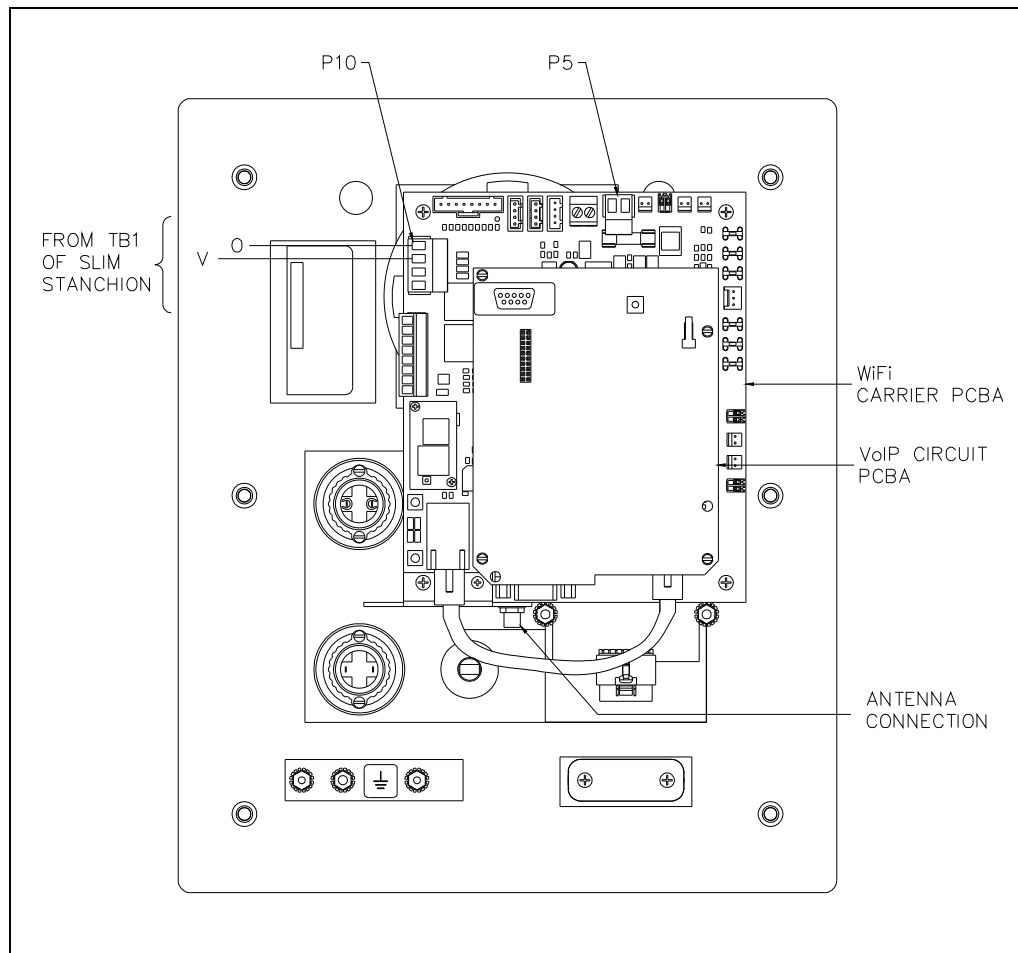
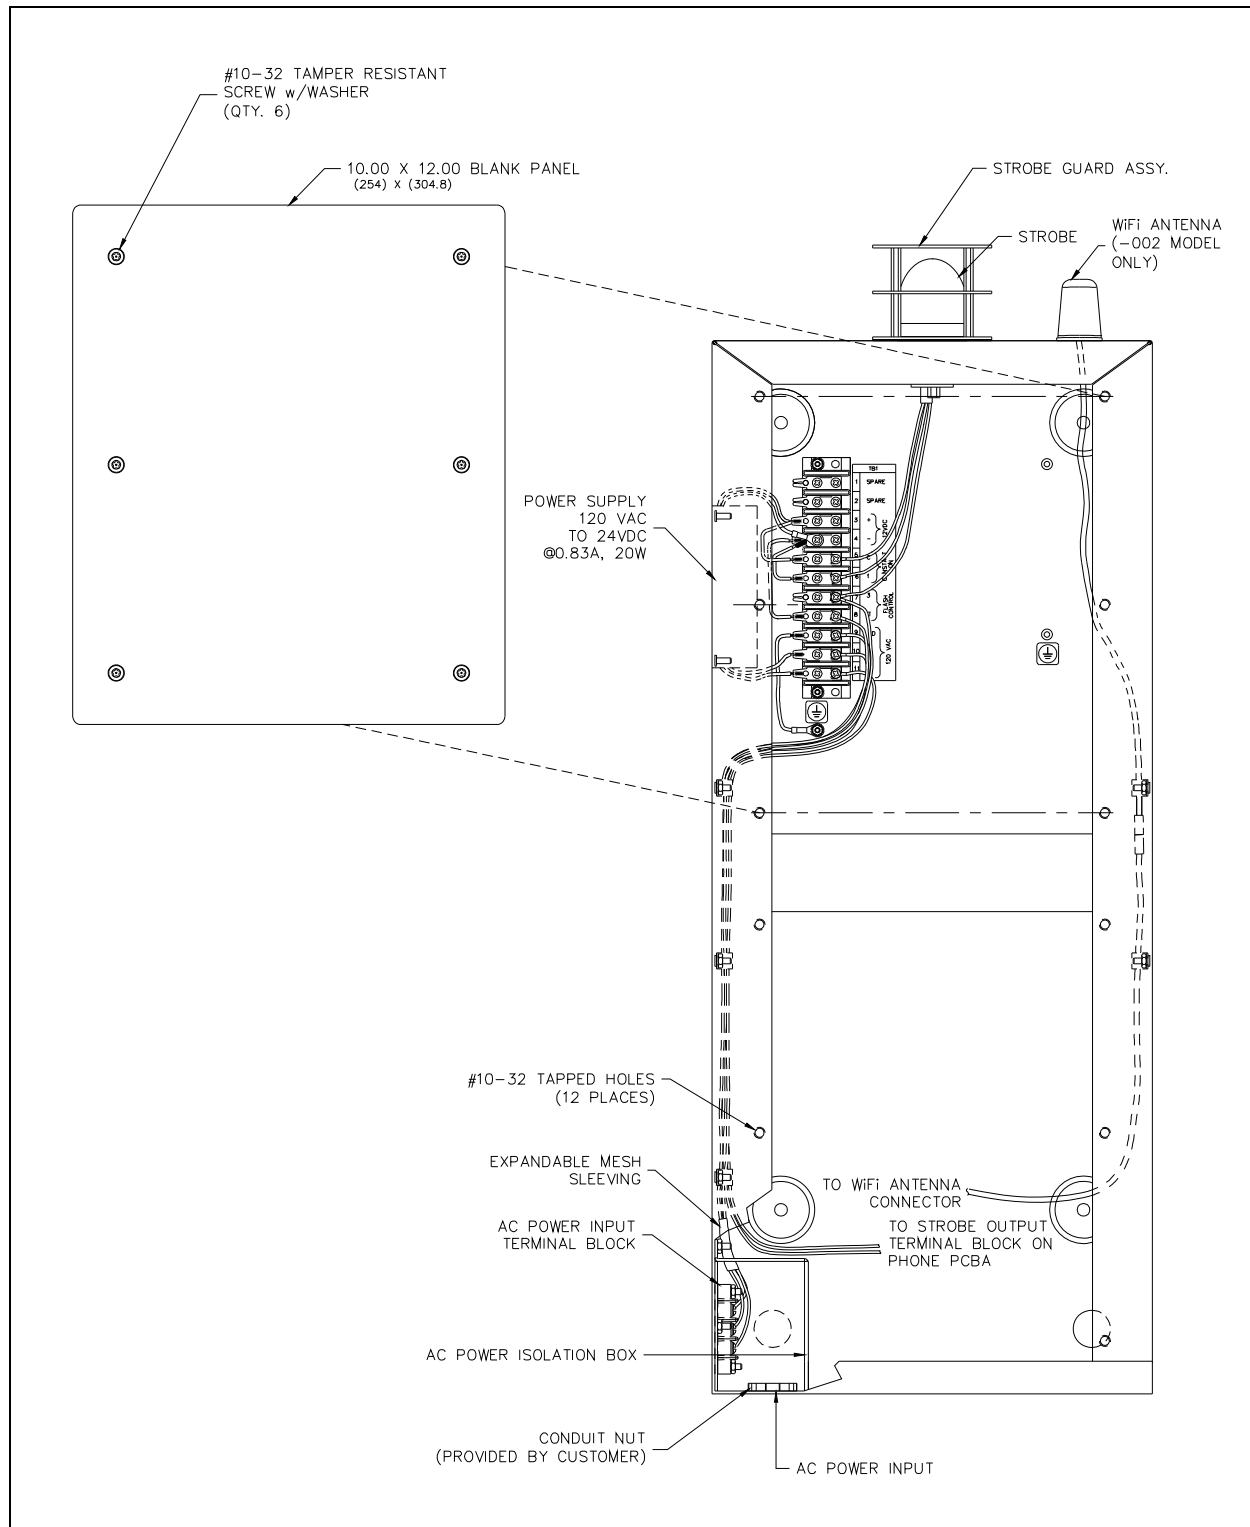

Figure 5.
Figure 6.
4. If utilizing PoE, connect the power to the system as indicated in the PoE manual. If utilizing local power, connect the positive conductor to the (+) terminal and the negative conductor to the (–) terminal of P5 on the telephone (customer-supplied wiring). Connect the positive conductor to the (+) terminal (3) and the negative conductor to the (–) terminal (4) of the TB1 located in the top section of the stanchion. See Figure 5 and Figure 6 for 24 V dc wiring as well as the appropriate telephone installation manuals.
Refer to Figure 5 and Figure 6.
2. Install the violet (V) and orange (O) beacon wires from inside the stanchion to P10 on the WiFi Carrier PCBA as shown in Figure 5.
4. WiFi telephones require a local power source to operate. Each WiFi Telephone includes terminal block P5 for connection of local power to the telephone. Connect the positive conductor to the (+) terminal and the negative conductor to the (–) terminal of P5 on the telephone (customer-supplied wiring). Connect the positive conductor to the (+) terminal (3) and the negative conductor to the (–) terminal (4) of the TB1 located in the top section of the stanchion. See Figure 5 and Figure 6 for 24 V dc wiring as well as the appropriate telephone installation manuals.